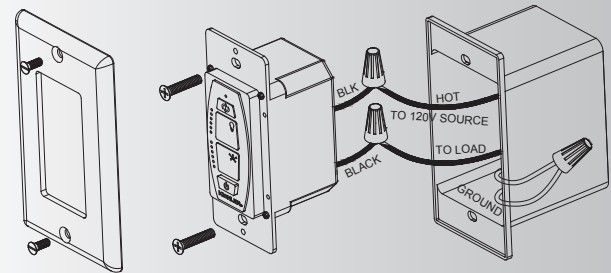

Fig. 25
**Step 3.** Connect one black wire of wall control to the "hot" wire (house source). Securely connect wires with wire connectors supplied. (Fig. 25)